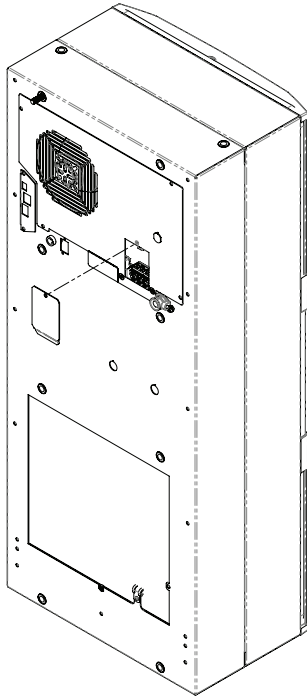

Figure 9
1. Loosen the screw on the evaporator access panel and remove the power access panel. See Figure 9.